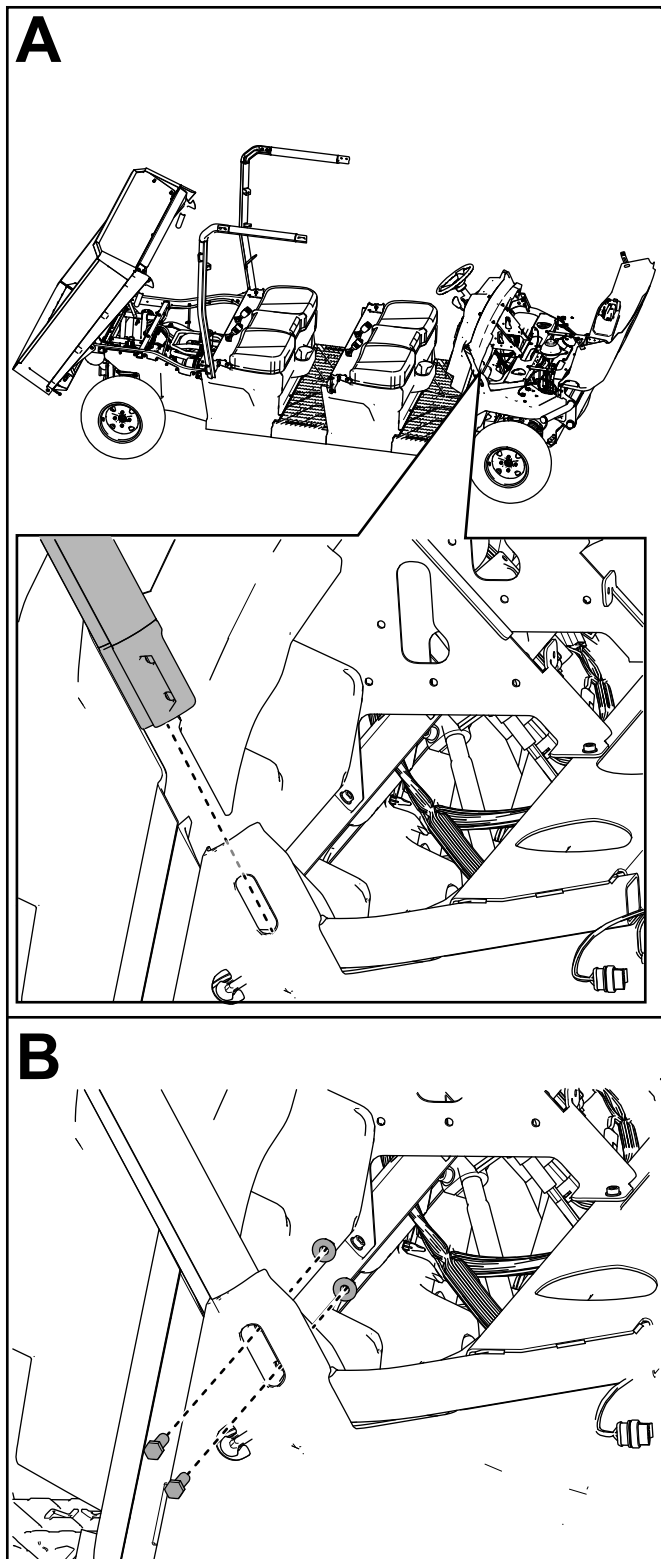

**Figure 37**
- Loosely secure the right roll bar connector assembly to the right, rear roll bar assembly using 2 hex-head bolts (3/8 x 1-1/4 inches) and 2 locknuts (3/8 inch) as shown in Figure 37.